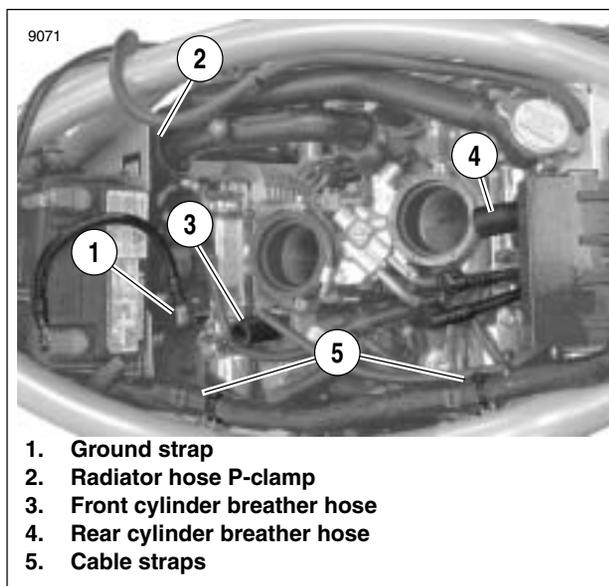
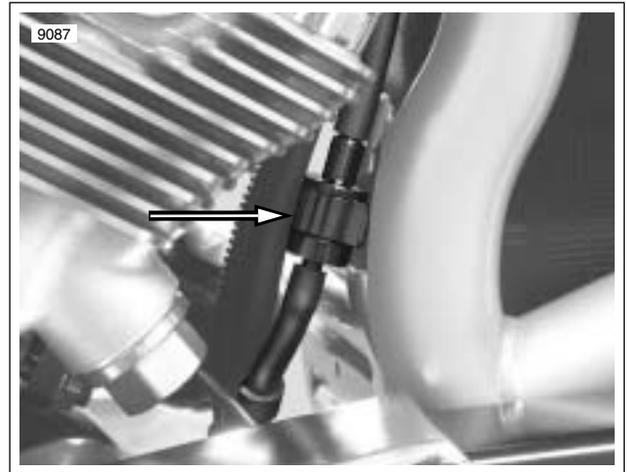

Figure 1-60. Upper Engine
Figure 1-61. Vapor Valve
- See Figure 1-60. Remove ground strap at cam cover.
- Remove p-clamp (2) retaining radiator hoses.
- Remove front (3) and rear (4) breather hoses.
- Remove main harness cable straps (5) along left side of frame.
- See Figure 1-61. Remove vapor valve from t-stud.